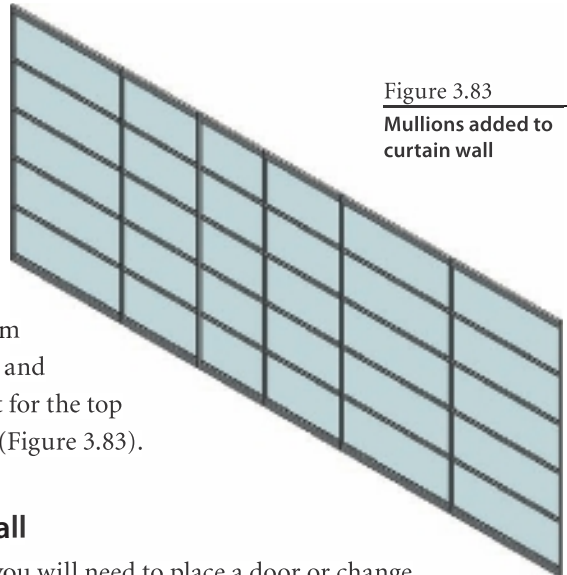

Figure 3.83
19. In the drawing window, move the mouse pointer over the bottom horizontal curtain wall grid line, and click to place the mullion. Repeat for the top horizontal curtain wall grid line (Figure 3.83).